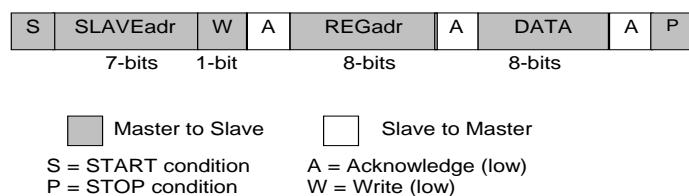
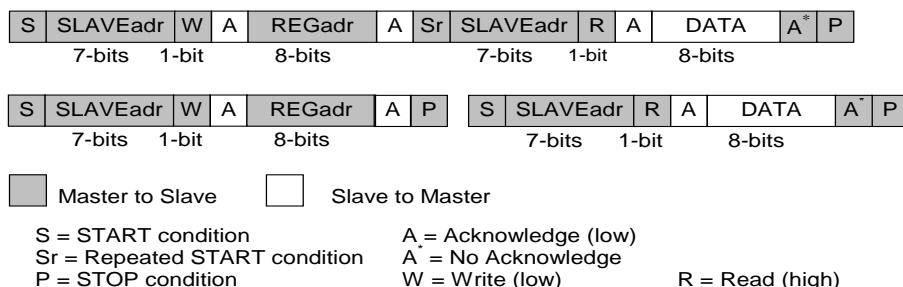

Figure 10: I²C Byte Write (SDA Line)
Figure 11: I²C Byte Read (SDA Line) Examples
The I²C bus is monitored for a valid slave address whenever the interface is enabled. It responds immediately when it receives its own slave address. The acknowledge is done by pulling the SDA line low during the following clock cycle (white blocks marked with A in Figure 10 and Figure 11).
The protocol for a register write from master to slave consists of a START condition, a slave address with read/write bit, and the eight-bit register address followed by eight bits of data, terminated by a STOP condition. DA9141 responds to all bytes with acknowledge (A), see Figure 10.
with a repeated START, or alternatively a second START, condition. After receiving the data, the host sends no acknowledge (A^*) and terminates the transmission with a STOP condition, see Figure 11.